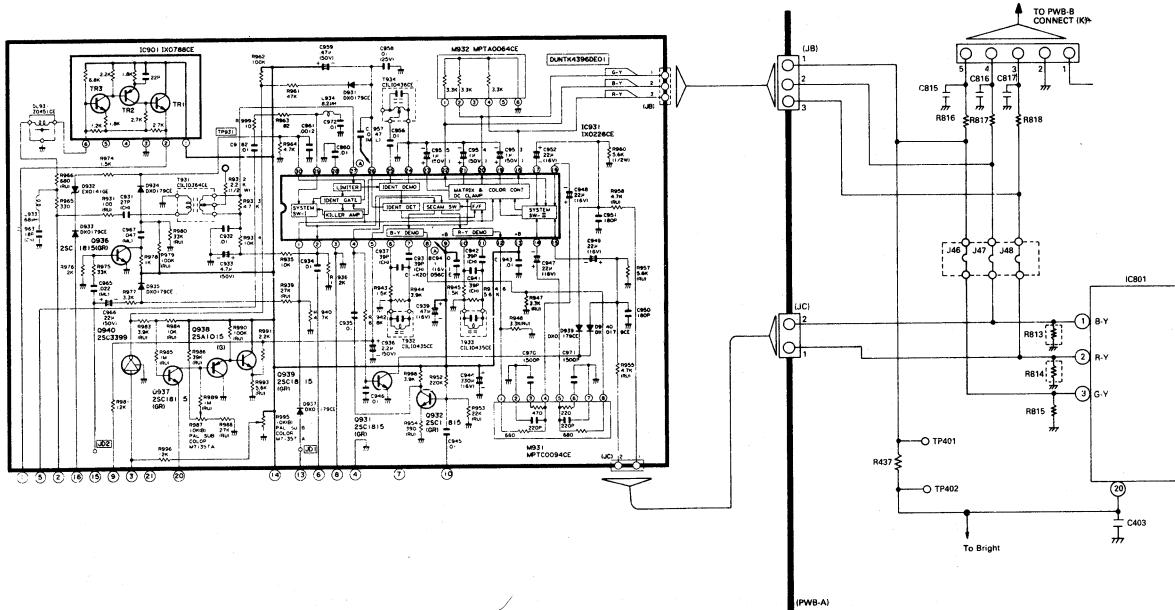

Figure 3 Switching of Colour Difference Signal between PAL and SECAM Systems
3. Switching of colour difference signal between PAL system and SECAM system (see Fig. 3)